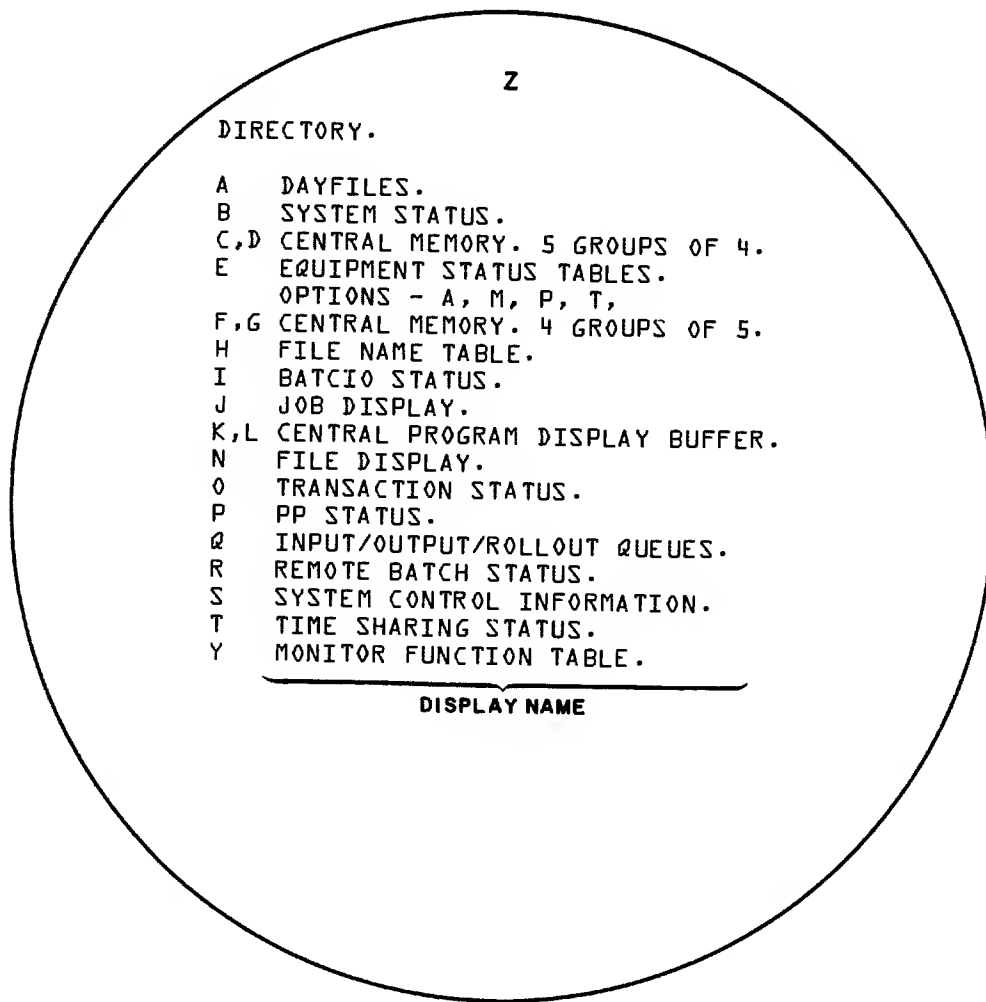

Figure 4-15. Directory (Z) Display
or enters a letter designator not among those listed. Figure 4-15 illustrates the directory (Z) display.